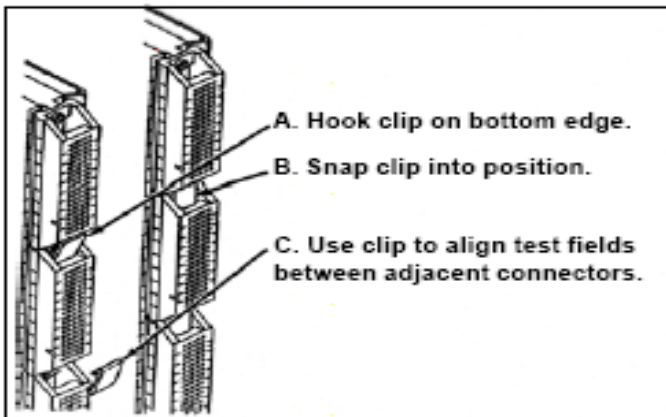

Figure 9 — Installing Alignment Clips
7.4 Install alignment clips. When all connectors have been mounted install one alignment clip (two supplied) in the open areas between the upper and lower test fields of a connector, and the other alignment clip in the similar area between test fields of adjacent connectors (Figure 9). First, hook bottom edge of clip onto connector, then press it up and in until the top edge snaps into position.